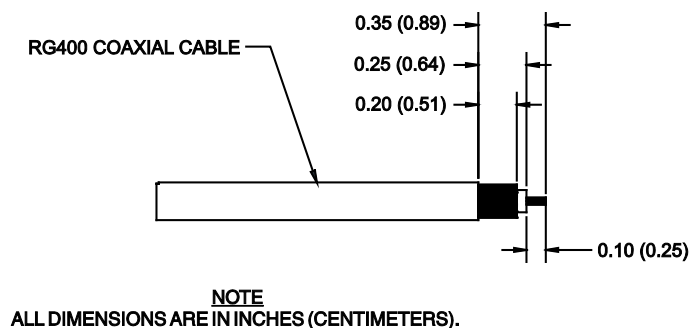

Figure 2-8: Coax Cable Preparation
1. Cut back outer plastic sheath and inner insulator to expose the copper shield and copper core as shown in Figure 2-8.